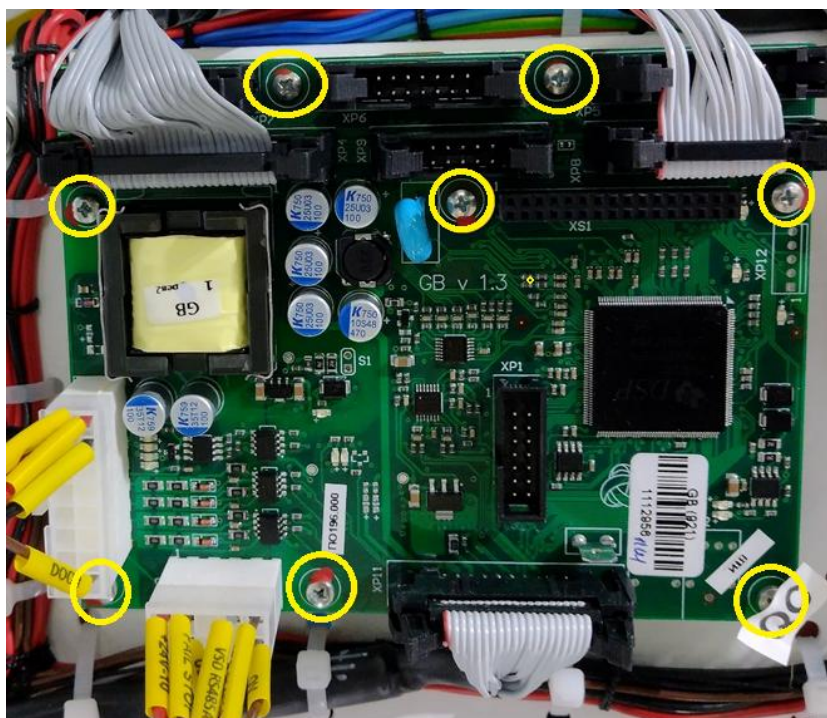

Figure 4 – Unscrew the screws which fixing GB unit
3. Unscrew the screws which fixing GB unit from fastening (yellow) as shown at figure 4 using crosshead screw driver.